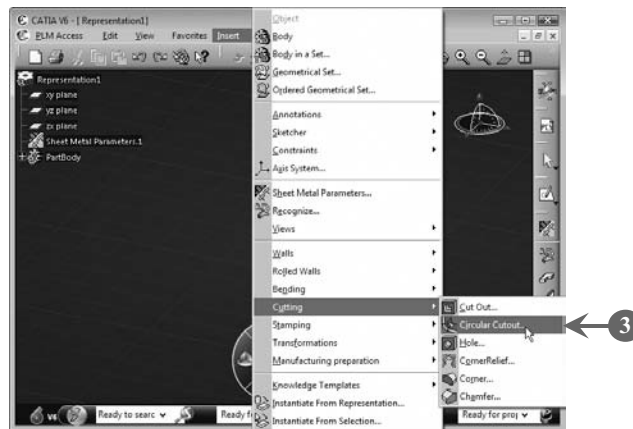

FIGURE 6.79
3. Select **Insert > Cutting > Circular Cutout** from the menu bar to create a circular cutout, as shown in **Figure 6.79**: